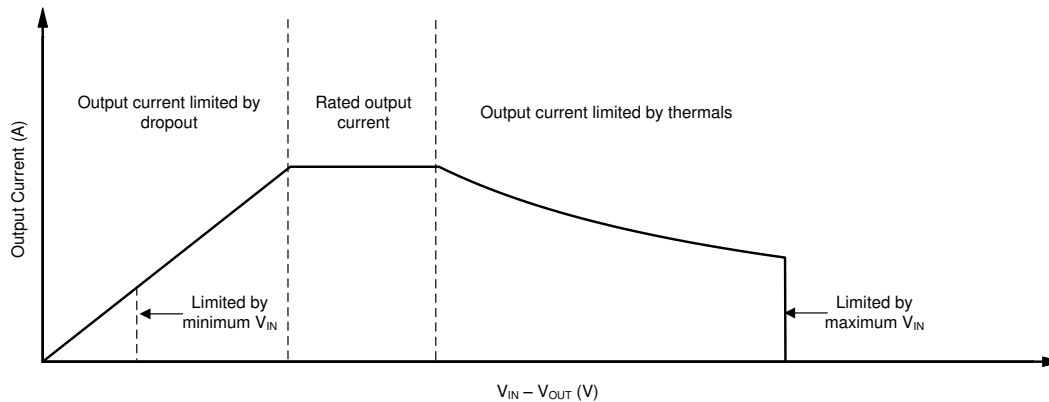

Figure 8-3. Region Description of Continuous Operation Regime
The operational area of an LDO is limited by the dropout voltage, output current, junction temperature, and input voltage. The recommended area for continuous operation for a linear regulator is given in Figure 8-3 and can be separated into the following parts:
- The shape of the slope is depicted in the third region of Figure 8-3. The slope is nonlinear because the maximum-rated junction temperature of the LDO is controlled by the power dissipation across the LDO. Thus, when $V_{IN} - V_{OUT}$ increases the output current must decrease.
Figure 8-3 shows the recommended area of operation for this device on a JEDEC-standard high-K board with a $R_{\theta JA}$, as given in the *Thermal Information* table.